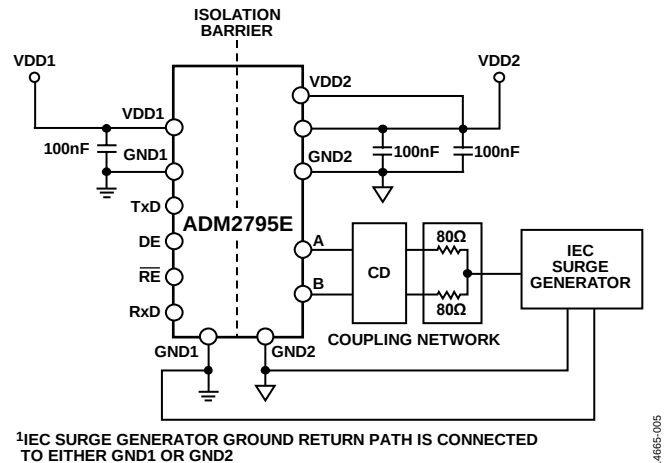

Figure 5. IEC 61000-4-5 Surge Testing to GND1 or GND2
IEC 61000-4-5 surge testing involved using a coupling network to couple the surge transient into the RS-485 A, B bus pins. The coupling network for a half duplex RS-485 device consists of an $80\ \Omega$ resistor on both the A and B lines and a coupling device. The total parallel sum of the resistance is $40\ \Omega$. The coupling device (CD) can be capacitors, gas arrestors, clamping devices, or any method that allows the EUT to function correctly during the applied test. During the surge test, five positive and five negative pulses were applied to the data ports with a maximum time interval of one minute between each pulse. Testing was performed in normal transceiver operation with the ADM2795E clocking data at 2.5 Mbps. Figure 5 shows the test setup for surge testing. The ADM2795E data sheet provides additional information on the IEC 61000-4-5 surge, including test waveforms.